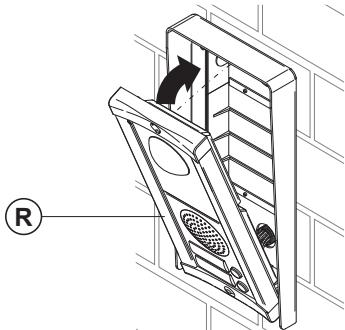
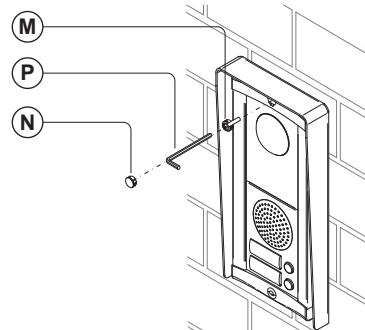

Fig. 10
Fig. 11
11. Lever the support **(R)** (Fig. 10) upwards and fix it to the back box with the screw **(M)** (Fig. 11) using an allen key **(P)** (Fig. 11);
12. Conceal the screw using the plastic cover **(N)** (Fig. 11) provided.